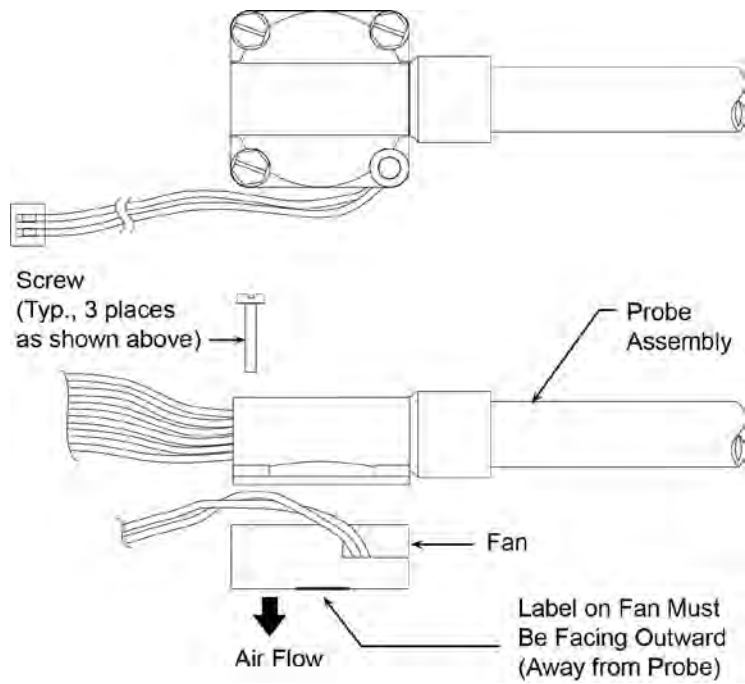

Figure 7. Fan Installation
5. Remove fan from probe assembly by removing its three screws as shown in Figure 7.